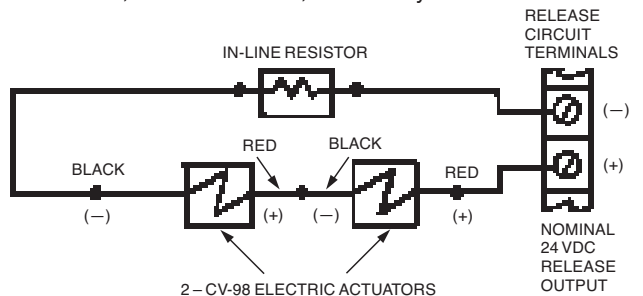

FIGURE 3
- Two CV-98 electric actuators (Part No. 423684) may be wired to the release circuit of an AUTOPULSE microprocessor-based control panel. Figure 3 shows a typical diagram for wiring of two actuators. Polarity must be observed when wiring this circuit. (Always check with the control panel manual for specific details pertaining to release circuit wiring.)